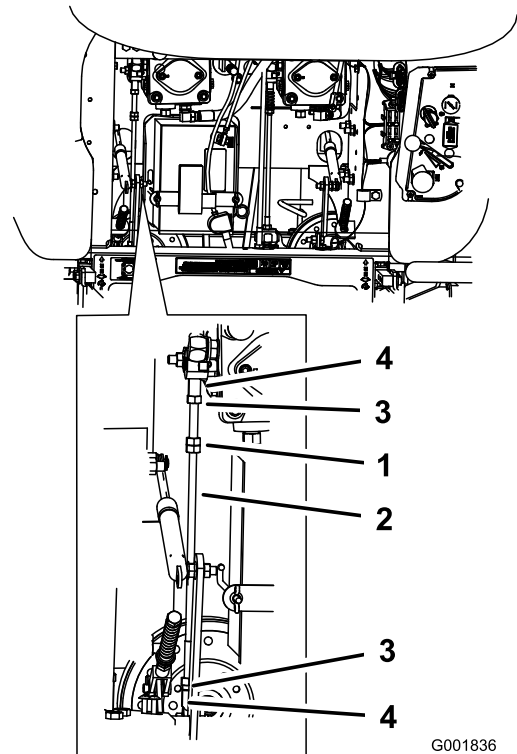

Figure 54
3. Adjust the pump rod length by rotating double nuts on the rod, in the appropriate direction, until the wheel is still or slightly creeps in reverse (Figure 54).
6. Tighten the locknuts at the ball joints (Figure 54).
1. Loosen the locknuts at the ball joints on the pump control rod (Figure 54).